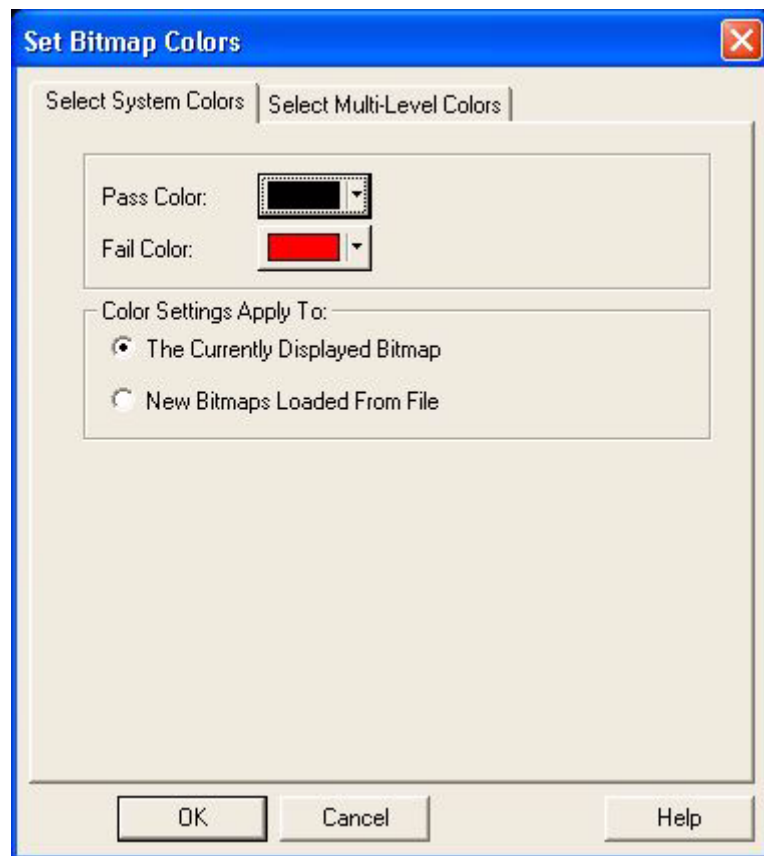

Figure 8-74. Set Bitmap Colors Dialog Box
- 1 Selecting the Action > Set Error Color command or  toolbar button displays the Select System Colors tab on the Set Bitmap Colors dialog box (Figure 8-74). This tab allows you to set the pass and fail colors for the bitmaps. The defaults are black for pass and red for fail. The colors can be changed by selecting the corresponding drop-down list box to display a color palette from which additional colors can be selected or created.